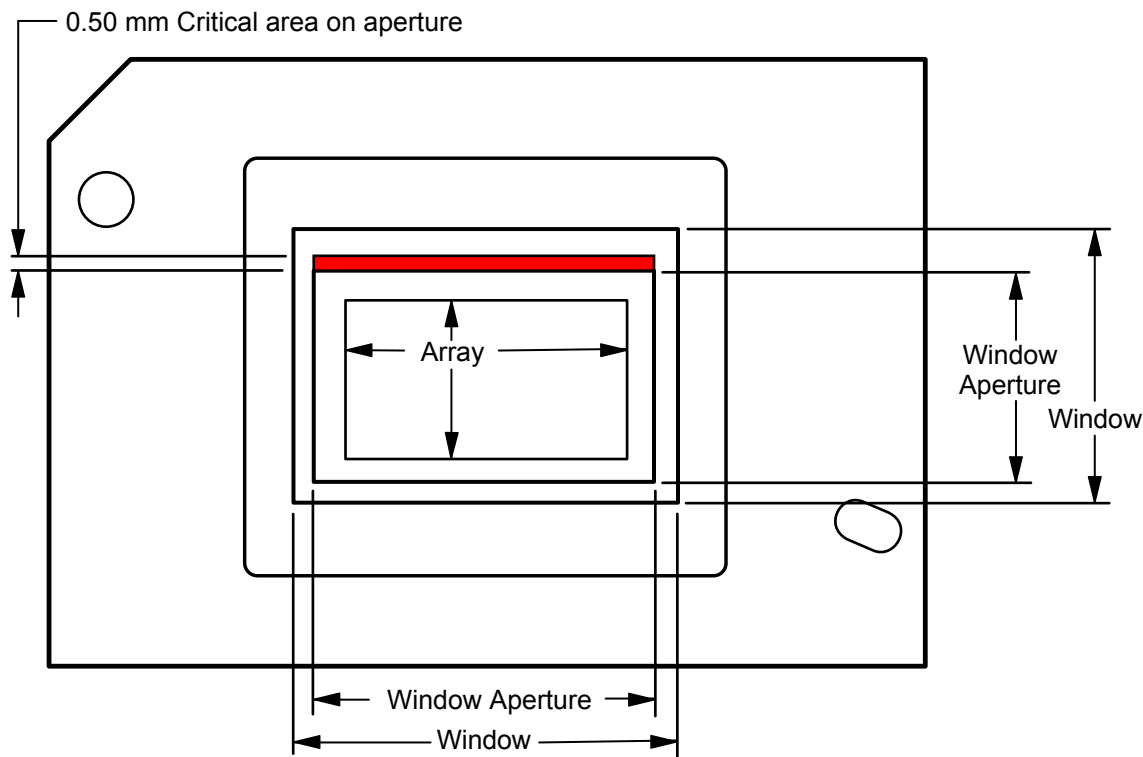

Figure 5-2. Illumination Overfill Diagram—Critical Area
- (18) Applies to region defined in Figure 5-2.
- (19) To calculate see Section 6.8 Window Aperture Illumination Overfill Calculation.
- (20) To calculate see Section 6.7 Micromirror Power Density Calculation.